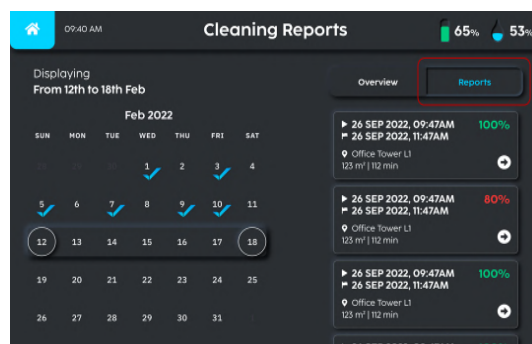

FIGURE 7-16
3. Choose the range of dates and select the 'Reports' tab to get a list of individual cleaning reports cards (**Fig. 7-16**).